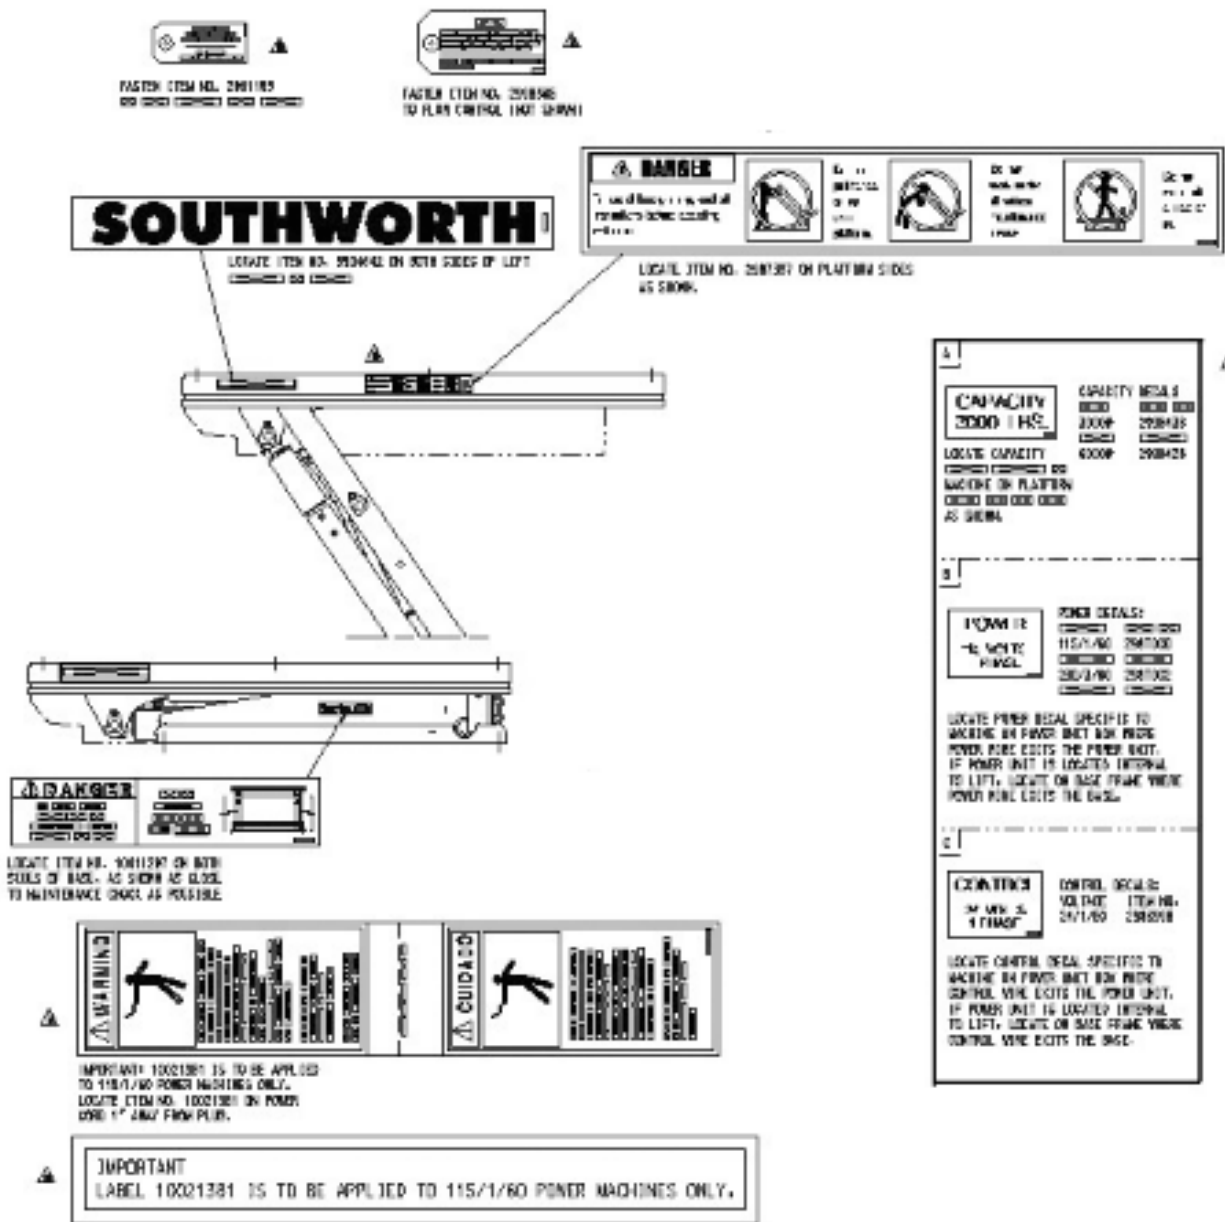

Fig. 1 Labels and Precautionary Markings (Side View)
3. Remove the maintenance device(s) from its/their storage location and place it/them into the engaged position as shown in Figure 1. (Note: further information may be useful here to provide additional
On the front of this manual, write down the model number, serial number, and date the unit is placed in service. Figure 1 shows the location of the name plate.